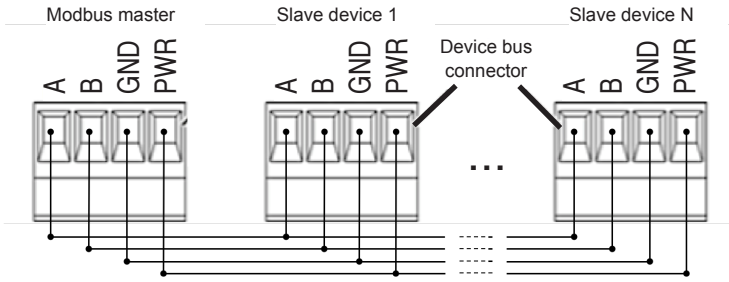

Fig. 4: Wiring the Power Bar to the Modbus Master
- ▶ Alternatively, refer to figure 4 for terminal assignments.